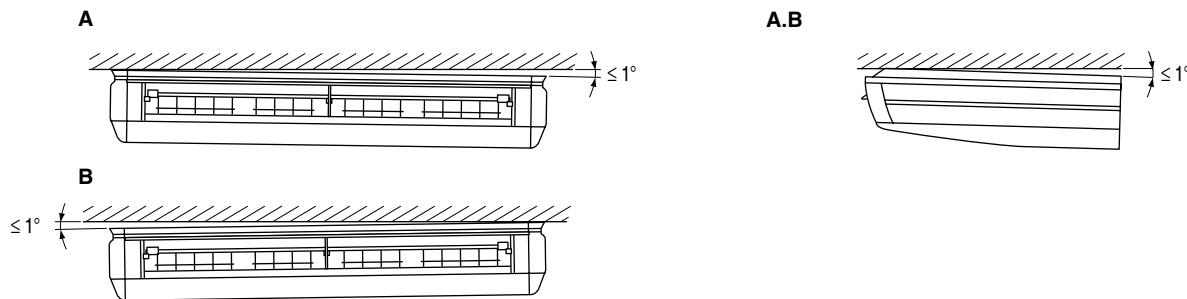

Fig. 11
### (5) When hanging the indoor unit main body, be sure to use a level or a plastic tube with water in it to make sure the drain piping is set either level or slightly tilted, in order to ensure proper drainage. (Refer to Fig. 11)